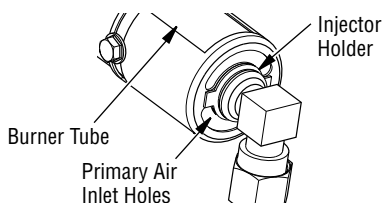

Figure 38 - Injector Holder On Outlet Burner Tube
2. Inspect burner, pilot and primary air inlet holes on injector holder for dust and dirt (see **Figure 38**, **Page 28**).